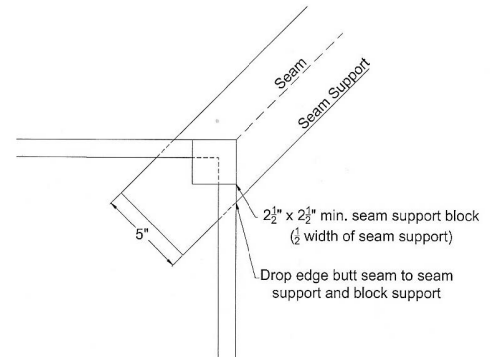

Figure 21A
- All 45° seams in the inside corner must be reinforced with a 5" (127.0mm) wide solid surface seam support (scab) adhered with Wilsonart® Hard Surface adhesive. (Fig. 21A)